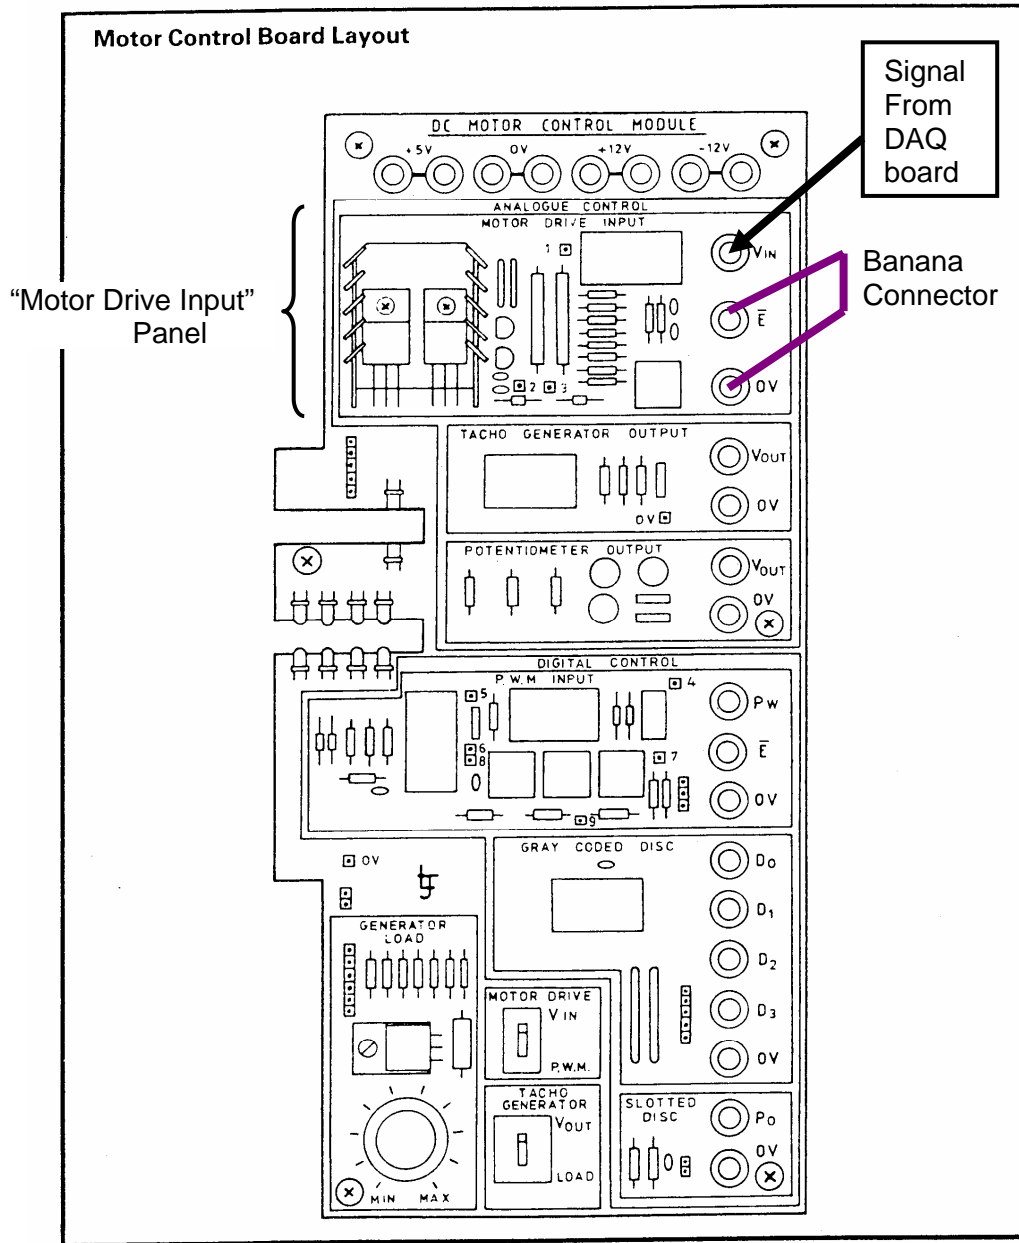

Figure 5. DC Motor Control Module connections for open loop analog control
8. Find the **MOTOR DRIVE INPUT** panel on your motor control module. To enable the selected input (**V_{IN}**) to drive the motor, use a banana connector to connect the **\bar{E} (Enable Input)** socket to the **0V** socket as shown in Figure 5.
- To drive the motor module with the analog voltage signal generated by your VI, connect the voltage input socket, V_{IN} , on the “**Motor Drive Input**” Panel (shown in Figure 5) of the motor control module to the CB-68LP connector block according to Table 2. Do not remove the connections to the oscilloscope.